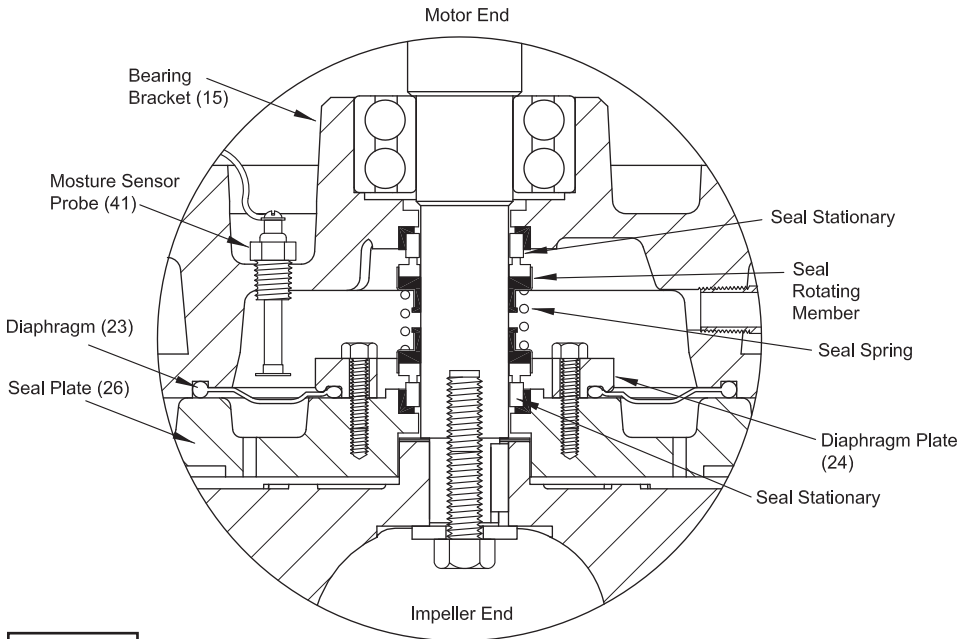

Figure 3
Seal/Diaphragm - (See Figure 3) Clean and oil seal cavities in bearing bracket (15) and seal Plate (26). Lightly oil (**Do not use grease**) outer surface of inboard and outboard stationary members of seal (19). Press inboard stationary member firmly into bearing bracket (15) and outboard stationary into seal plate (26), using a seal pusher tool. Nothing but the seal pusher tool is to come in contact with seal face.